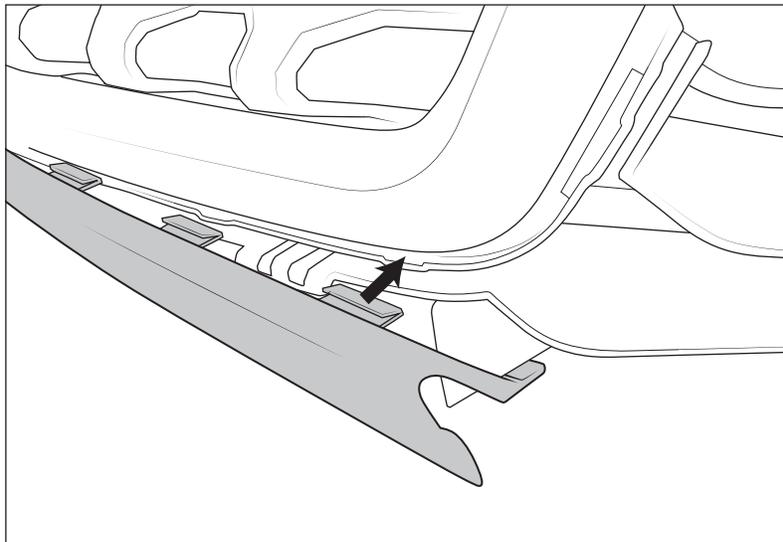

Figure 4
- C. Install rubber Gap Filler by inserting tabs into the bottom of the grill working from the center outward (fig. 4).